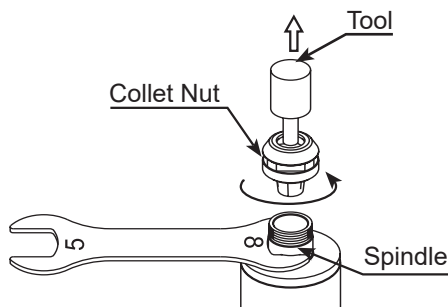

Fig. 21
- (1) Remove the tool according to the section 14 "CHANGING TOOLS" procedure above and remove collet nut assembly. (Fig. 21)